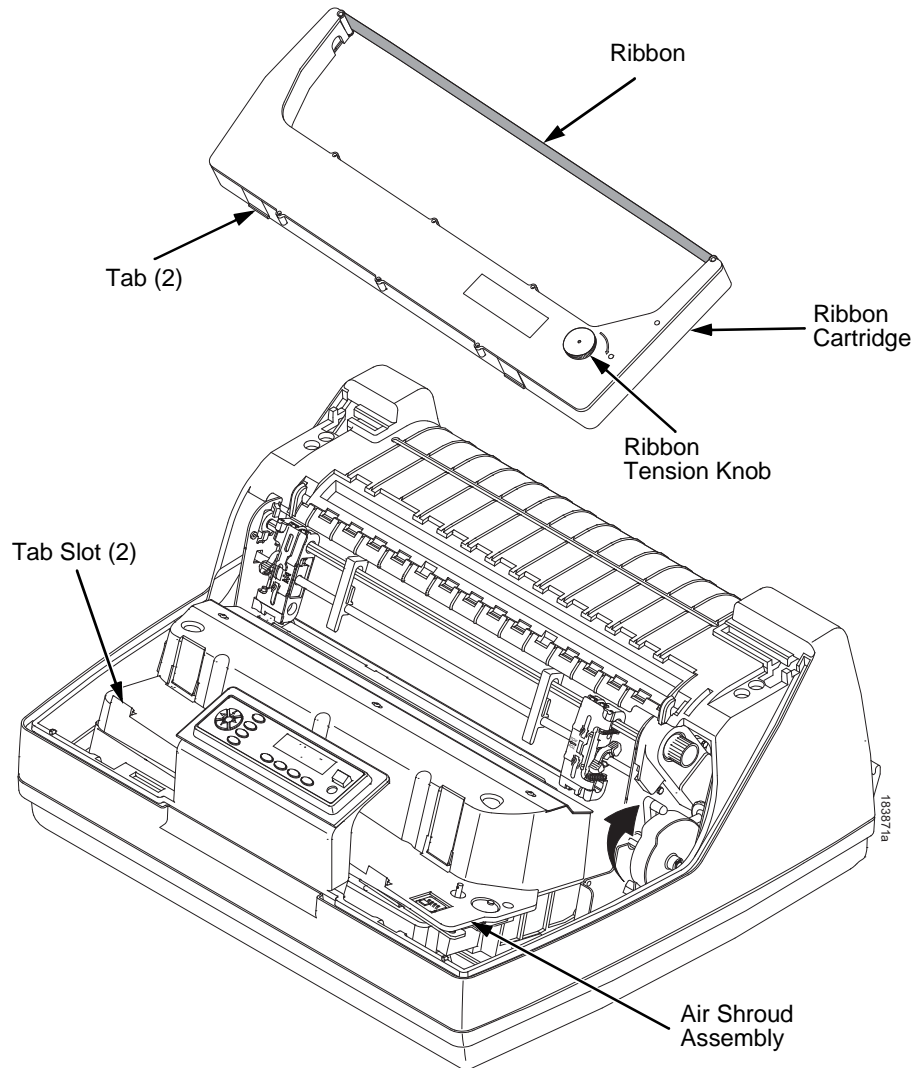

Figure 21. Installing the Ribbon Cartridge
6. Hold the cartridge at an angle, so that the rear side nearest you is lower than the side with the ribbon. Find the two tabs on the outside of the cartridge and place them into the corresponding slots on the air shroud assembly (see Figure 21).